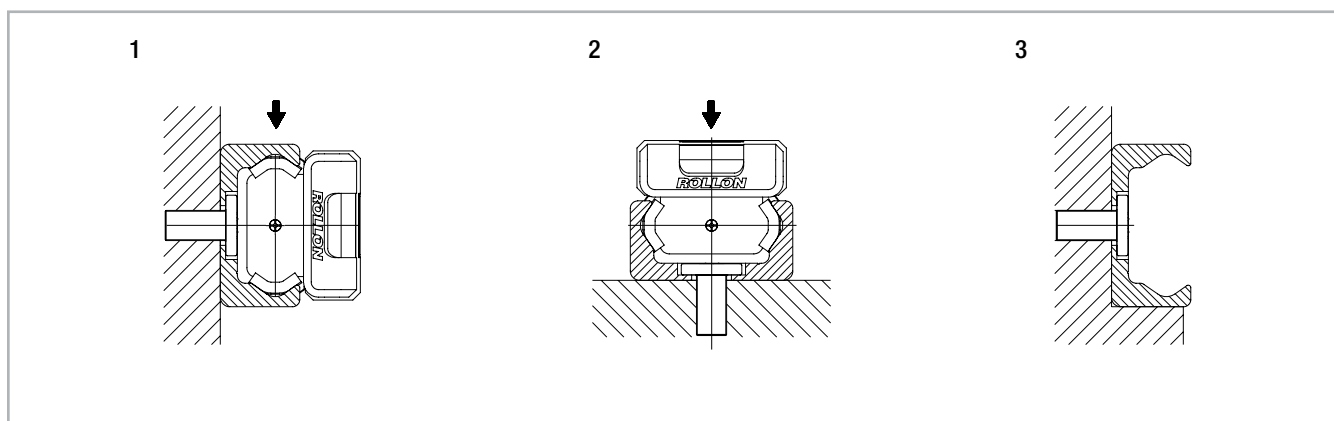

Fig. 150
The T- and K-rails can be installed in two positions relative to the external force. For axial loading of the slider (fig. 150, pos. 2), the load capacity is reduced because of the decline in contact area caused by the change in position. Therefore, the rails should be installed in such a way that the load on the rollers acts in the radial direction (fig. 150, pos. 1). The number of fixing holes in the rail in combination with screws of property class 10.9 is dimensioned in accordance with the load capacity values. For critical applications with vibrations or higher demand for rigidity, a support of the rail (fig. 150, pos. 3) is advantageous.